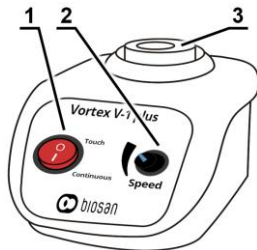

Figure 1. V-1 plus, front view
5.2. While gently holding a tube by its upper part, press the lower part to the vortex head (fig. 1/1). During rotation of the rotor, control the intensity of shaking by varying applied pressure.
5.3.1. Turn the I/O switch (fig. 1/2) to position
5.3.2. Set the required speed by turning the **Speed** knob (fig. 1/3).
5.4.1. Turn the I/O switch (fig. 1/2) to position **Touch**.
5.4.2. Set the required speed by turning the **Speed** knob (fig. 1/3).
5.4.3. Push the tube on the vortex head (fig. 1/1) and hold for vortexing. Rotor stops when the tube is raised.